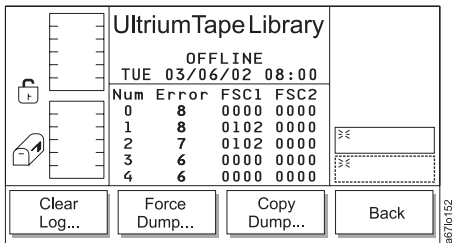

Figure 4-53. Drive Error Log Options Submenu
- Press the button below the **Options** softkey. The Drive Error Log Options Submenu displays (see Figure 4-53).
- To return to the Drive Error Logs Options Submenu (see Figure 4-53), press the button below the **OK** softkey. To return to the Main Menu, press the button below the **OK → Back → Cancel → Back** softkeys. Continue to press the button below the **Back** softkey until the Main Menu displays.